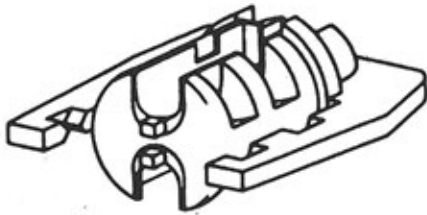
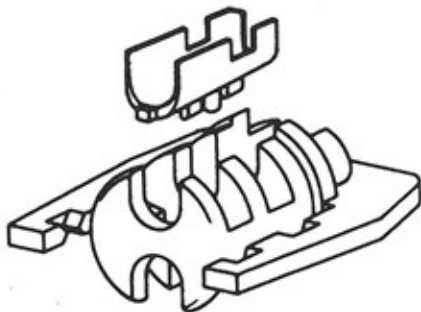

Fig. 2
Fig. 3
**2.02** The wire grooves in the plastic cap have removable inserts. The insert groove will accept wires from .300" to .400" in diameter (Figure 2). Remove the entire insert and the groove diameter is .500" (Figure 3). Wires of different diameters in the same SERVICEAL® Closure can be accommodated by leaving in or taking out inserts.